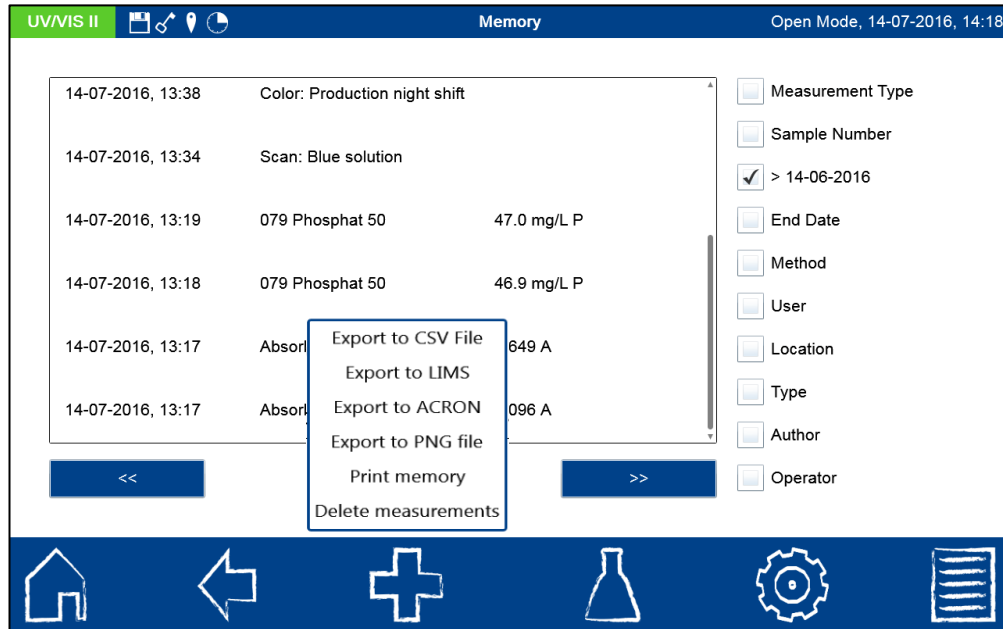
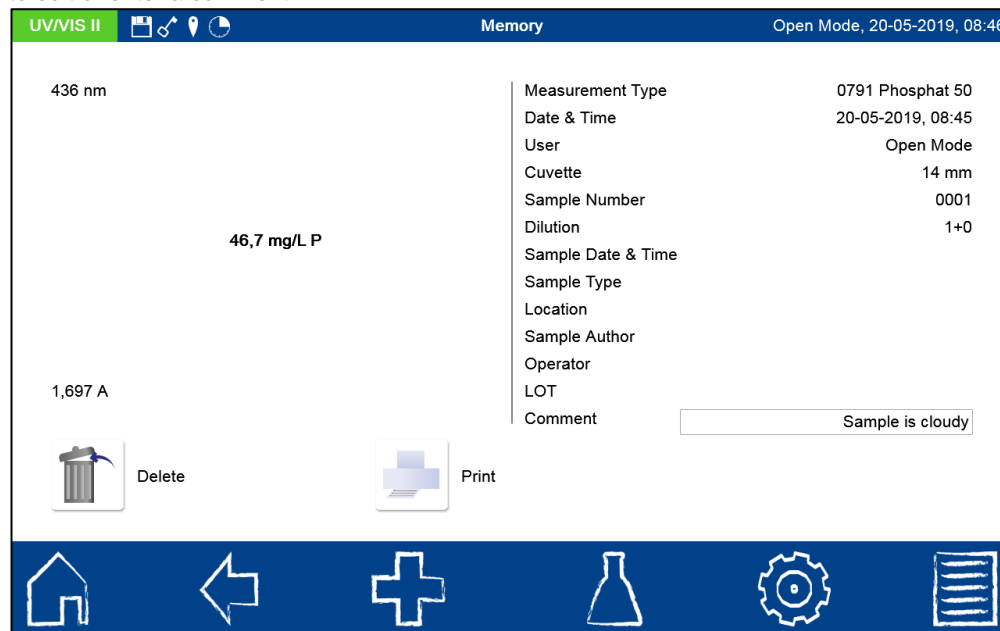
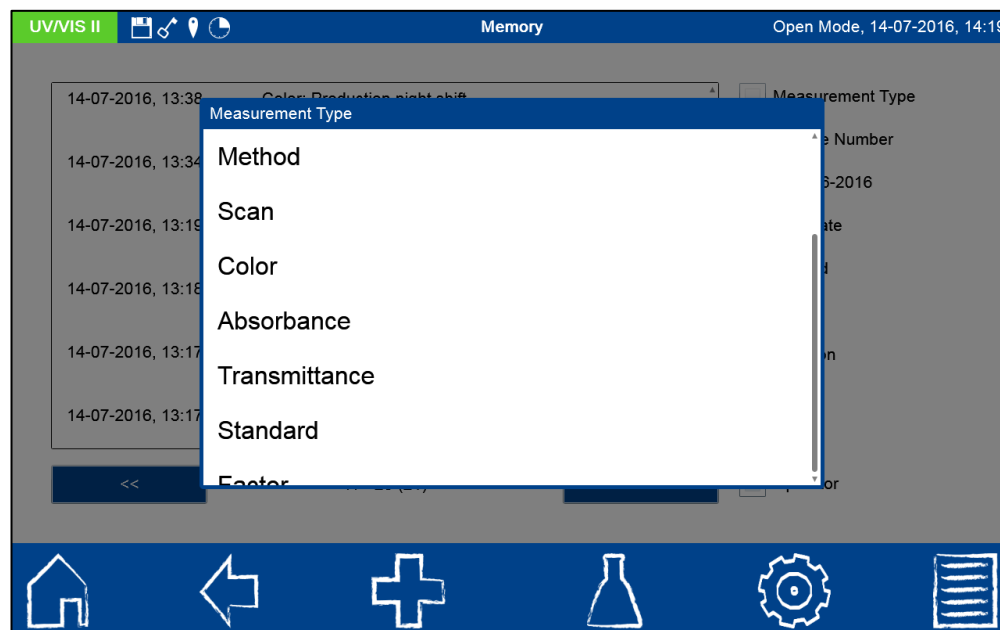
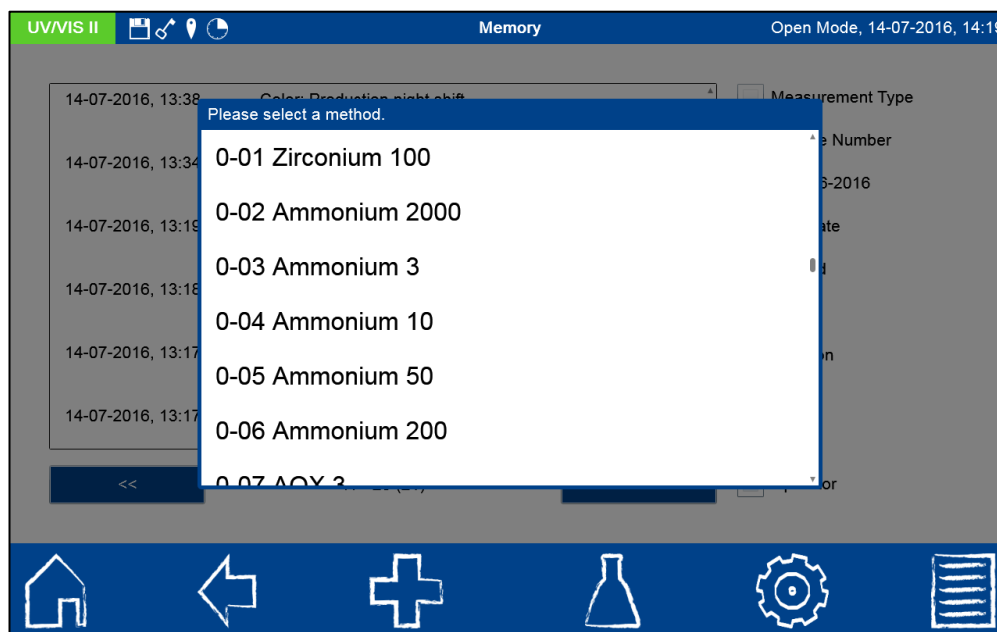

Figure 127: Measurement memory display with options
Figure 128: Display of an individual measurement
Figure 129: Memory selection according to type of measurement
Figure 130: Memory selection according to method
To export the data to LIMS, press  and select "Export to LIMS" from the measurement result memory (see Figure 127). The data will be transferred as the type configured above.
- "Off" setting: No data are automatically sent to the network drive. The export of the data must be initiated manually via the option "Export to CSV" in the measurement result memory (see Figure 127). A separate CSV file with date and time stamp is generated for each manually triggered export.
In addition to the measurement results, all other sample information that was entered will also be saved. The sample information will be linked to the measurement results in a tamperproof way (GLP conformity). The measurement results can be retrieved by pressing the  icon in the task bar. All measurement results are shown in a list arranged by date (see Figure 127). In addition to the type of measurement (method, scan, absorbance, etc.), the result of the measurement is also shown. Whenever the measurement memory is retrieved, the measurement results of the past month are pre-selected.
Detailed information can be retrieved by selecting the individual result in the measurement memory. Along with the result, all sample information that was entered is shown here (see Figure 128). The comment is the only sample information that can be changed or edited in the memory. By pressing the text field behind comment in the memory will open a keyboard
Figure 129 shows selection according to the type of measurement. Open the list box by tapping the entry "Measurement type" in the memory menu (see Figure 127). After the type of measurement is selected, the appropriate memory contents will be selected. Various selection criteria can be applied simultaneously. For instance, in addition to the type of measurement, the method can also be selected (see Figure 130).
It is possible to delete the entire memory, individual results or a selection of results. *Note: Deleting information from the device memory is legitimized only in the "Open Mode" or by administrators in the "User Mode."* Pressing the  icon in the memory menu (see Figure 127) followed by confirmation of the "Delete measurements" entry triggers a popup box to which asks for the deletion of the entire memory or the selected results. If you confirm the subsequent security question with "Yes," depending on the choice of the user, the selected results or all measurements will be permanently deleted. The IQC memory remains unaffected by this action. To delete an individual result, the  icon has to be pressed in the individual result display mode (see Figure 128). After confirming the security question with "Yes," the measurement will be permanently deleted.